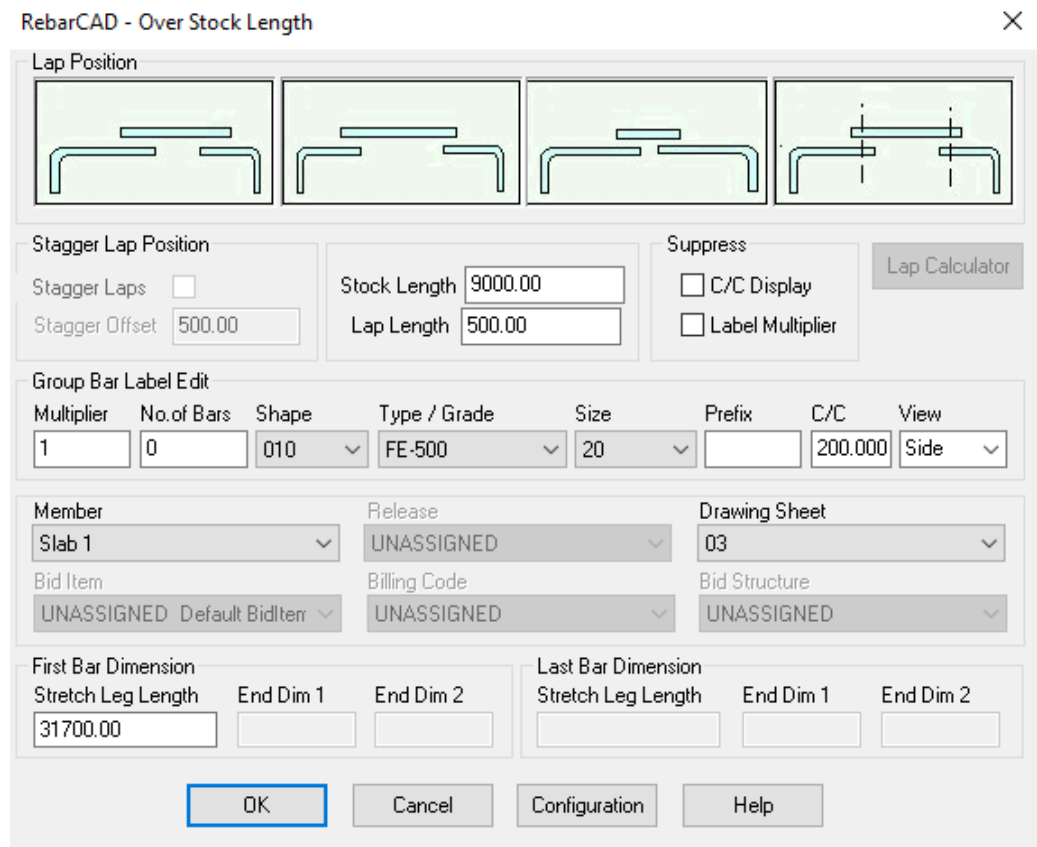

Figure 5.5.1:2 RebarCAD Over Stock Length Configuration dialog
- In the OSL Configuration dialog choose Option 4 with the Splice Lines. Select Configuration and ensure that the dialog is set-up as shown in figure 5.5.1:2.